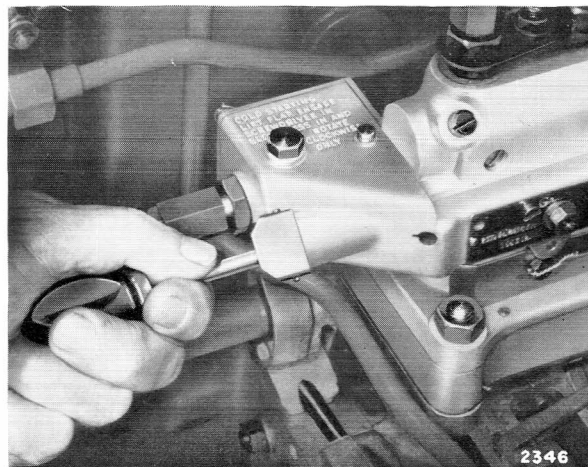

Fig. 14. Tool Operated Excess Fuel Device
38. STARTING FUEL PLUNGER — ROAD VEHICLES. Regulations under the United Kingdom Road Traffic Act make it necessary that any device which will facilitate the starting of a motor vehicle compression ignition engine by causing it to be supplied with excess fuel must be so arranged that the device cannot be readily operated while the vehicle is in motion on the road. We have accordingly produced a tool-operated excess fuel device which is shown in Fig. 14.